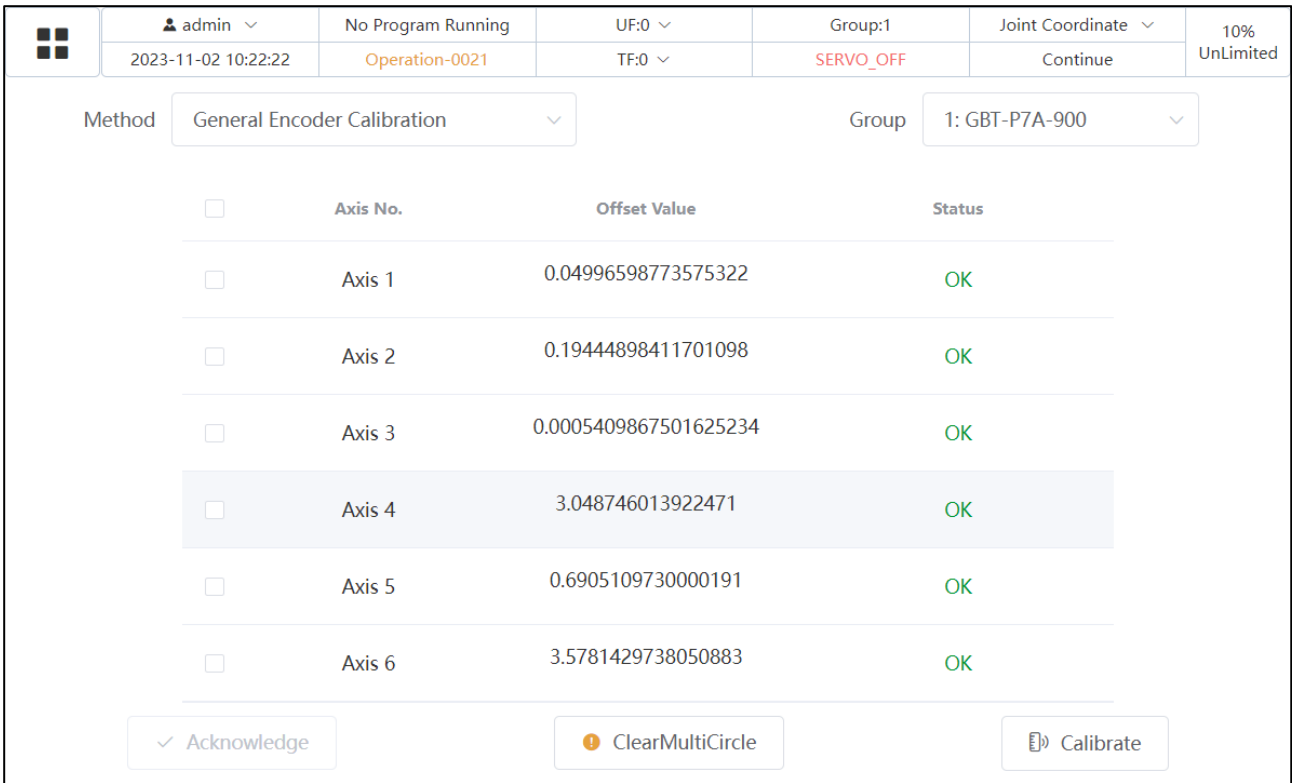

Fig. 7.2 Zero-point Status Screen
2. Successively click "Menu" → "System" → "Basic Settings" → "Encoder Calibration" to enter the screen as shown in Fig. 7.2.